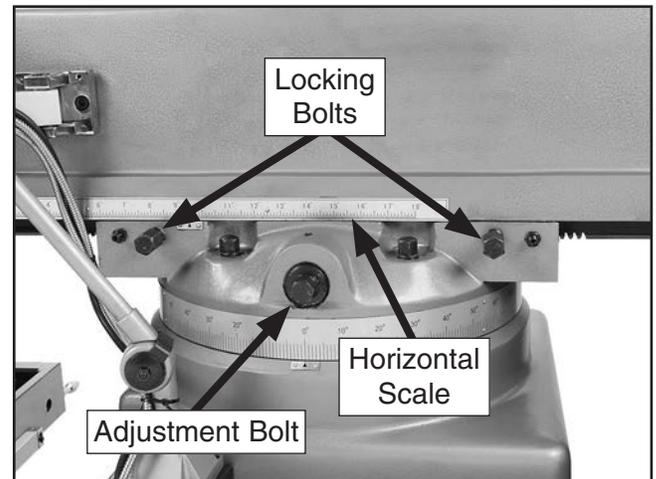

Figure 35. Ram horizontal movement controls.
2. Loosen the two locking bolts shown in **Figure 35**.